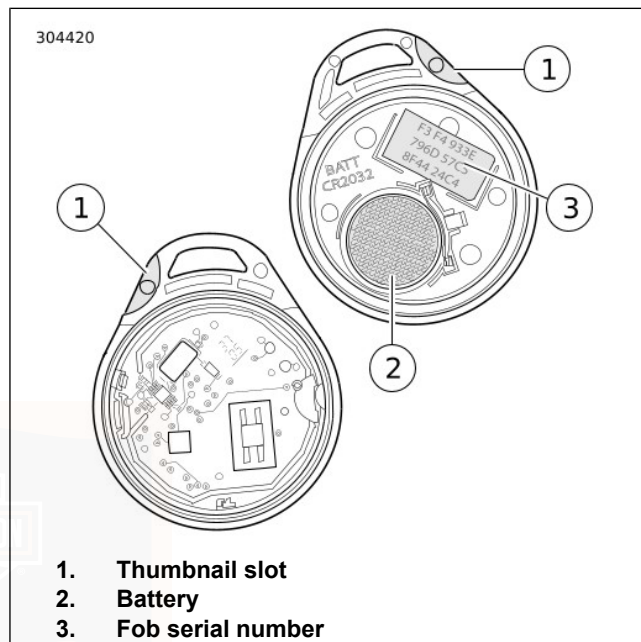

Figure 41. Hands-Free Fob Battery
1. See Figure 41. Slowly turn a thin blade in the thumbnail slot (1) on the side of the fob to separate the two halves.
2. Remove the battery (2) and discard.